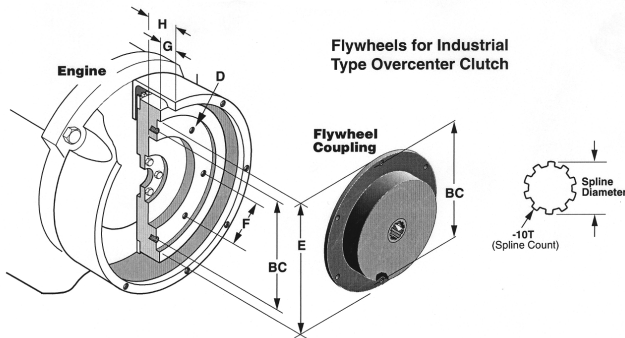

Figure 6
- Figure 6 shows the hollowed-out appearance of the flywheels made for use with overcenter type clutch power take-off assemblies.